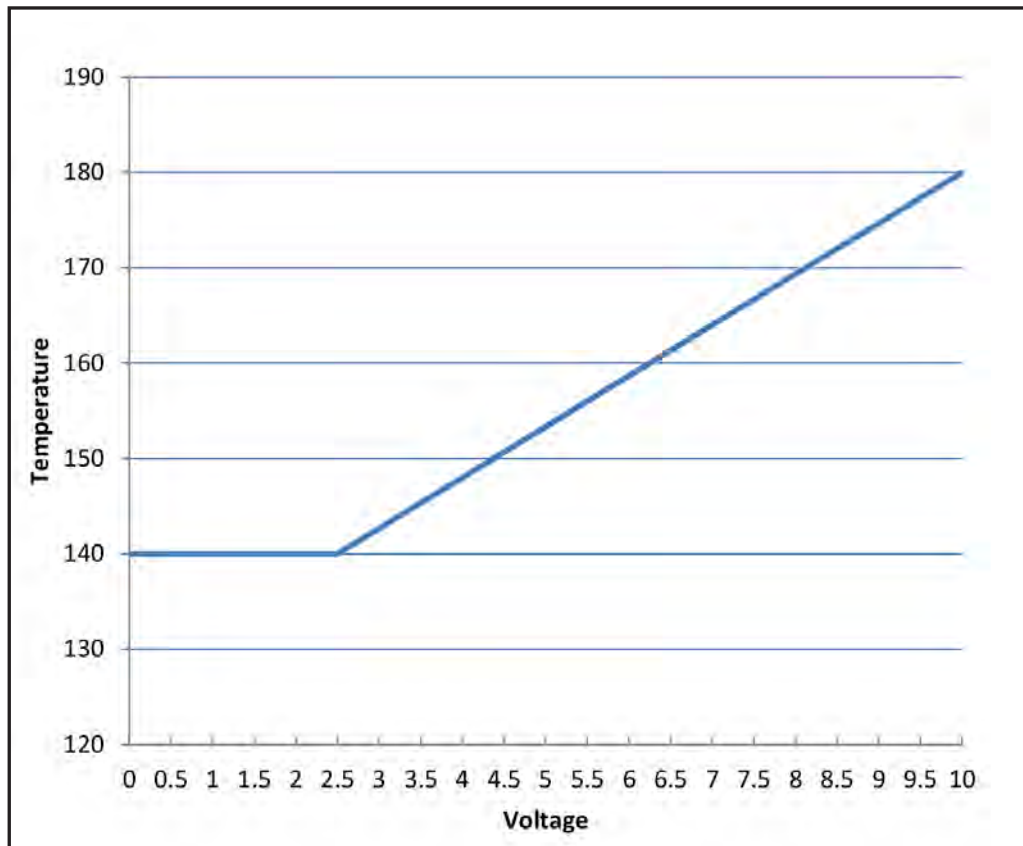

Figure 39. External Setpoint Example
- Using the default values for Boiler Max Set Point (180°F), Boiler Min Set Point (140°F), Demand Minimum (2.5VDC), Demand Maximum (10.0VDC), the unit will linearize the set point, as shown in **Figure 39**.